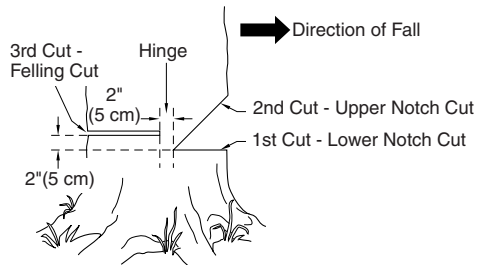

Figure 12 - Felling A Tree
A properly placed felling notch will determine direction tree will fall. Place felling notch on side of tree in direction you want tree to fall (see Figure 12). Follow directions below to create a felling notch.
1. Make lower notch cut as close to ground as possible. Hold saw so guide bar is horizontal. Cut 1/3 the diameter of tree trunk (see Figure 12). *Note:* Always make this horizontal lower notch cut first. If you make this cut second, tree can pinch chain or guide bar.
Example: If lower notch cut is eight inches deep, start upper notch cut eight inches above it. Cut downward at 45° angle. The upper notch cut should meet end of lower notch cut (see Figure 12).
1. Make felling cut two inches higher than lower notch cut and on opposite side of tree (see Figure 12). Keep felling cut parallel to lower notch cut.
- #### **⚠ WARNING:** Do not cut all the way through tree. Leave about two inches of tree diameter uncut directly behind felling notch (see Figure 12). This uncut portion acts as a hinge. The hinge helps keep tree from twisting and falling in wrong direction.